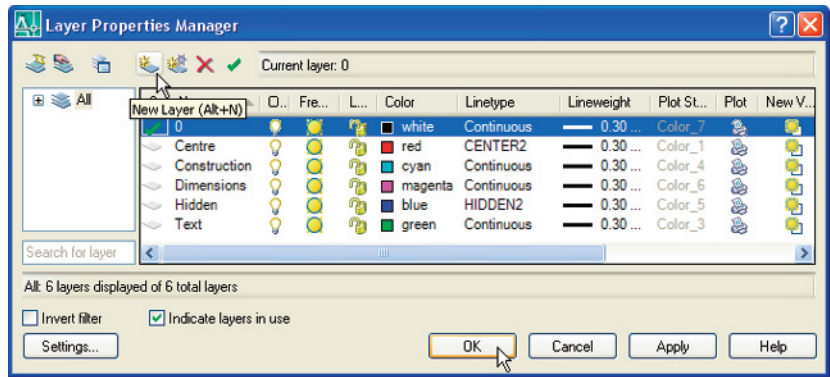

Fig. 4.17 The **Layer Properties Manager** dialog
- The **Layer Properties Manager** dialog appears on screen (Fig. 4.17).